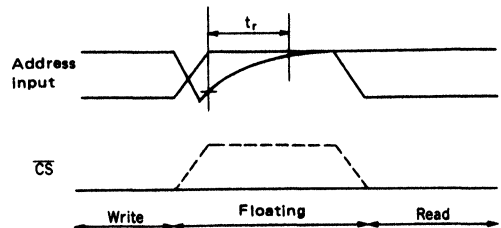

Figure 3-8
- Put  $\overline{CS}$  into High while Address Input becomes floating. (Dotted line in Figure 3.8)
- Insert Pull-up Resistor (R) to hold time constant of Rising Edge wave form of Address Input pin ( $t_r = R \times C$ ) below 150 ns.